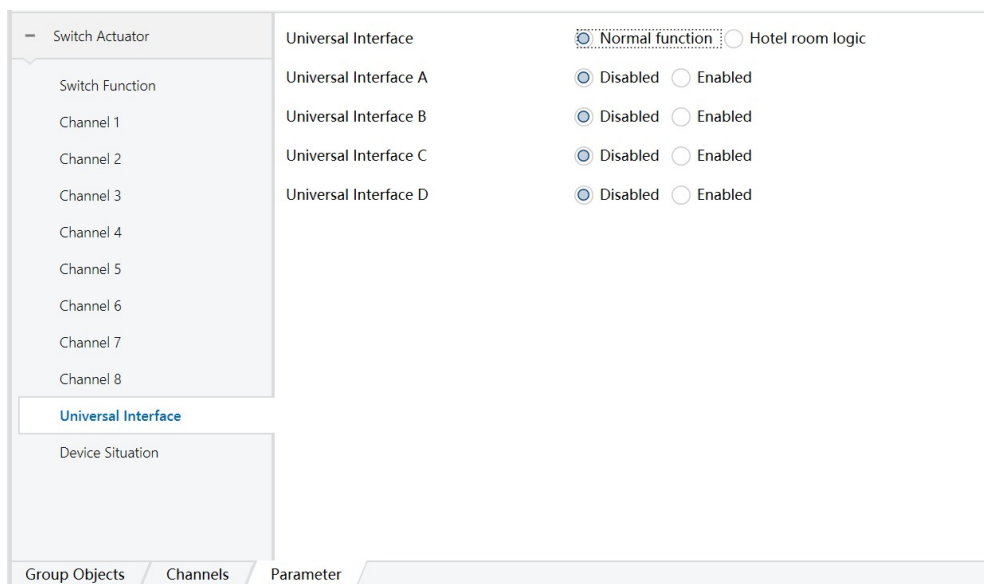

Figure 6.2.1
1) Click "Universal Interface" as shown in Figure 6.2.1, and set Universal Interface A-D to Enabled, which will enable four dry contact interfaces.